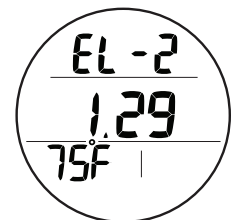

Fig. 8 - WATCH ALT 1
**WATCH ALT 1**, information includes (Fig. 8):